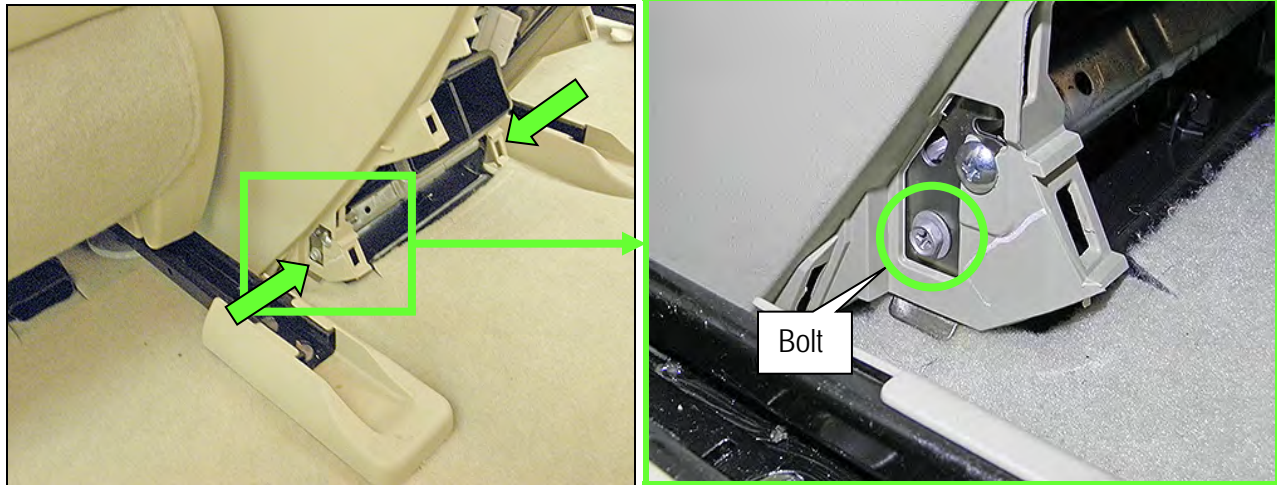

Figure 29B
11. Remove the two mounting bolts at the bottom rear of the center console (Figure 29B).